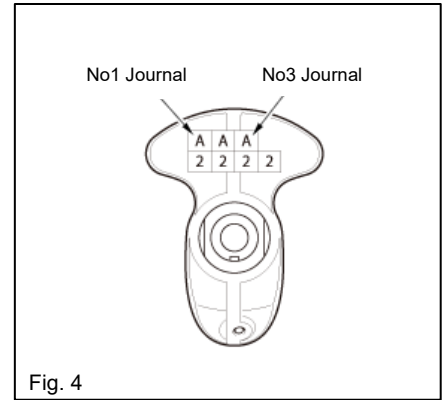

Fig. 4
3.4 Please refer to Figure 4 when checking the fitting mark.
Please refer to Figure 4 when checking the fitting mark.